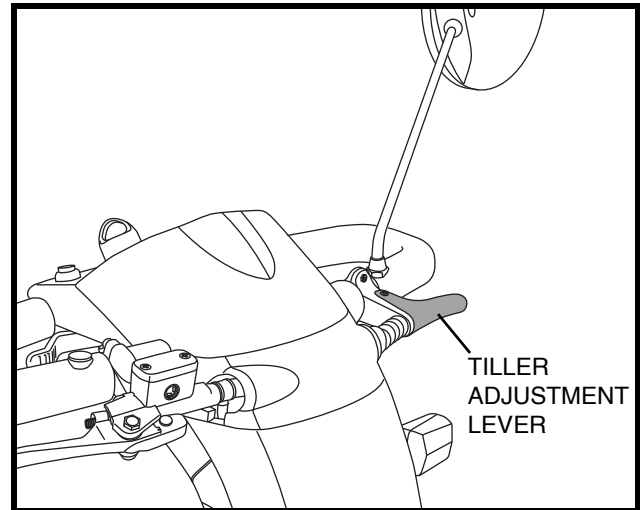

Figure 14. Tiller Adjustment
1. Squeeze the tiller adjustment lever. **See figure 14.**